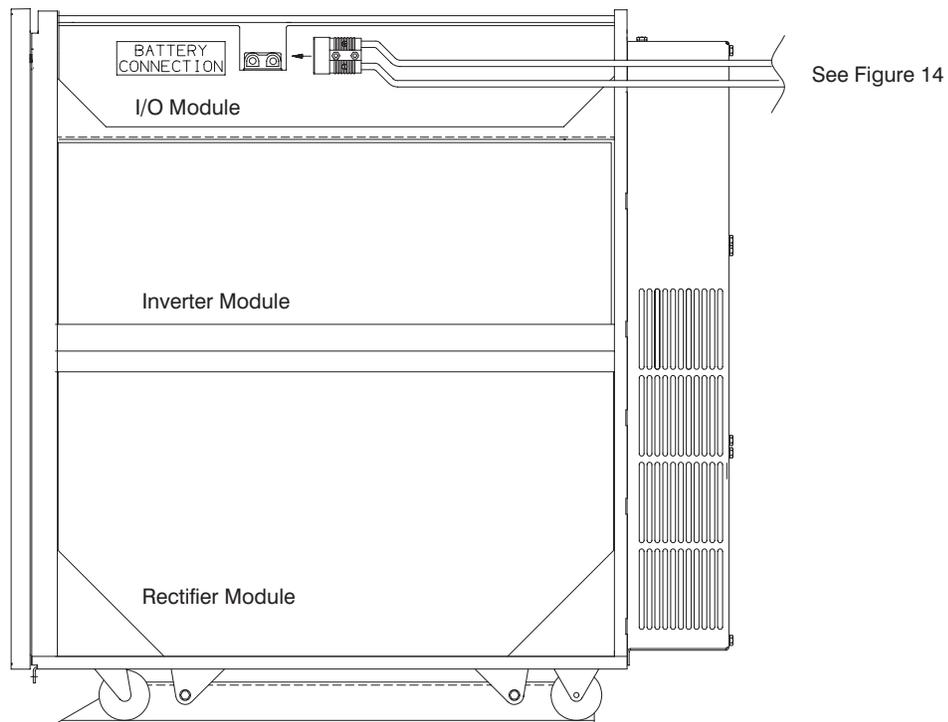

Figure 13. Connecting the UPS and Battery Cables (Right Side View)
15. Mate the connector with the mating half located in the I/O module as shown in Figure 13. If the cabinets are not permanently mounted to the floor, you can slide them apart to make the connection.